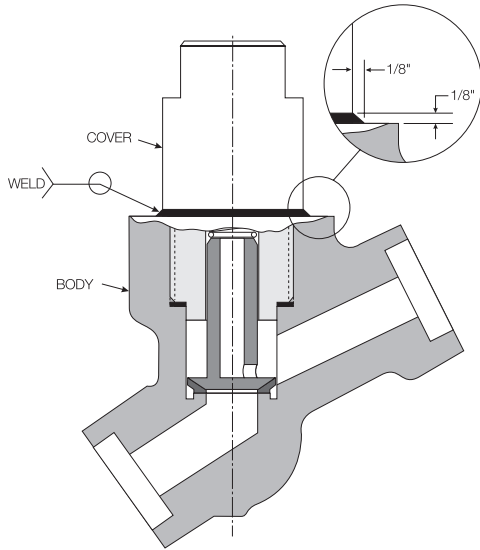

FIGURE 26A—Cover Seal Weld
- For a valve with a bonnet seal weld, cut through the entire circumference of the weld, with a minimum gap, using an abrasive cut off wheel. (See Figure 26A.)